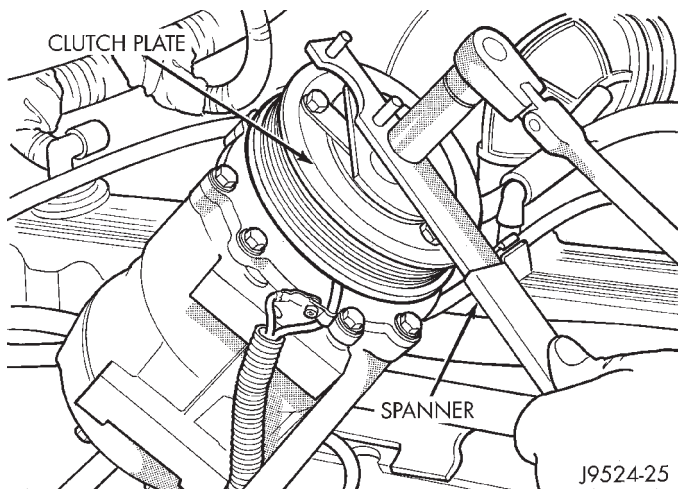

Fig. 4 Hex Nut Removal
(1) Remove the serpentine drive belt (refer to Group 7, Cooling System for the proper procedure).
(2) Remove compressor mounting bolts and lift the compressor from the mounting bracket. Support the compressor to work on clutch.
(3) Insert the 2 pins of spanner C-4489 into holes of the clutch plate. Hold clutch plate stationary and remove hex nut (Fig. 4).